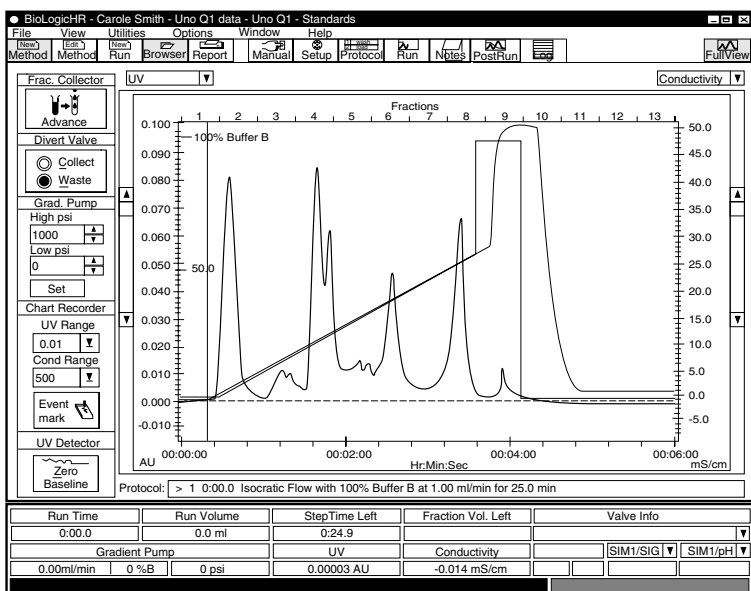

Fig. 13. Run control screen showing a completed run on an Automated BioLogic HR System.
- When you have finished programming the Protocol Editor, click on the toolbar button **RUN**. You will see a dialog box asking you to name the run. For now, type in Run 1 and click the **OK** button. You will now see the Run Control Screen (see Figure 13).
7. Figure 13 shows a typical run screen and chromatogram for this separation.